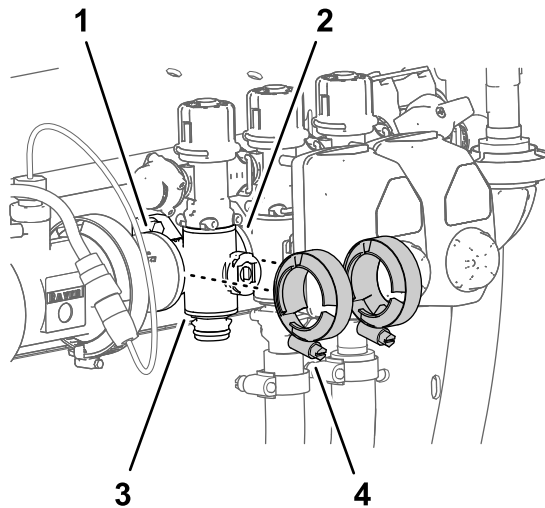

Figure 126
3. Remove the 2 flange clamps that secure the section-manifold valve to the flanges of the adjacent components (Figure 126).